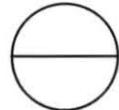

Figure 30. Instrument Tag
- 1. Determine the type of device indicated by the tag in figure 30.